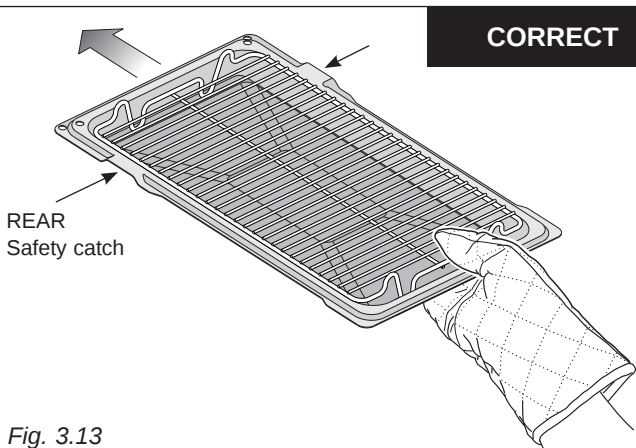

Fig. 3.13
- Introduce the grill-pan (tray + grid) (figs. 3.11 - 3.13) in the oven and insert it on the second or third level from the top (fig. 3.10). The grill-pan (tray + grid) must be fitted so that the safety catch (fig. 3.13), which stops it sliding out, faces the inside of the oven.